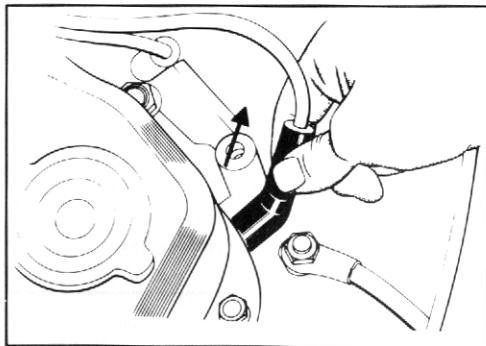

Figure 1 - Removing spark plug wire
- Remove the first spark plug wire by pulling on the boot, not on the wire itself. (If the spark plug boot is stuck to the spark plug, a slight twisting motion on the boot will assist in breaking loose the boot.) See Figure 1. Pulling on the wire may separate the carbon center, causing the wire to fail and the engine to misfire. This can happen with no evidence of damage on the outer insulation. In case of wire damage, it is necessary to replace the complete wire, since a satisfactory repair cannot be made. Also, pull the boot by hand or with a special spark plug boot tool only — never use pliers.